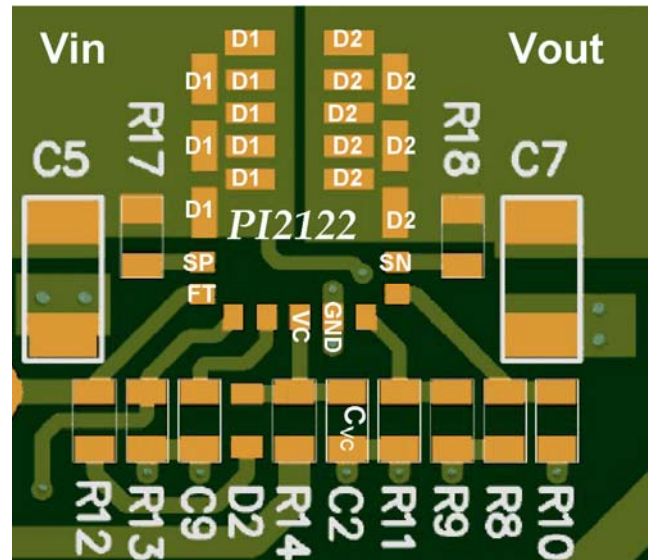

Figure 25: PI2122 layout recommendation
Use the following general guidelines when designing printed circuit boards. An example of the typical land pattern for the PI2122 is shown in Figure 25:
- The VC bypass capacitor should be located as close as possible to the VC and GND pins. Place the PI2122 and bypass capacitor on the same layer of the board. The VC pin and C_{VC} (shown as C2 in Figure 25) PCB trace should not contain any vias or connect to the ground plane close to the GND pin.
due to reverse current fault conditions. The inductive kick will produce a high voltage across the MOSFET. If it is not possible to connect the power source and D1 pins with a very short trace or common point, connect a capacitor (shown as C5 in figure 25), recommended value $1\mu\text{F}$, close to the D1 pins and return (ground). Also for the same reason use C7 in figure 25 at the output.